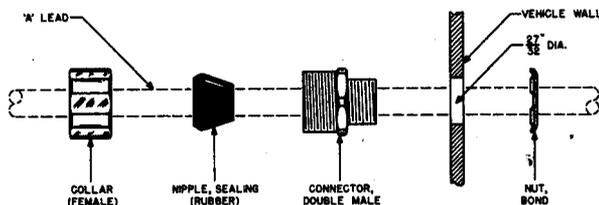

Fig. 3.—Connector and bond nut, installation detail.
6. When installation is made in the vehicle, use Connector and Bondnut, as shown in figure 3, to bring battery lead from Plate Supply Unit PE-117-C through metal wall.